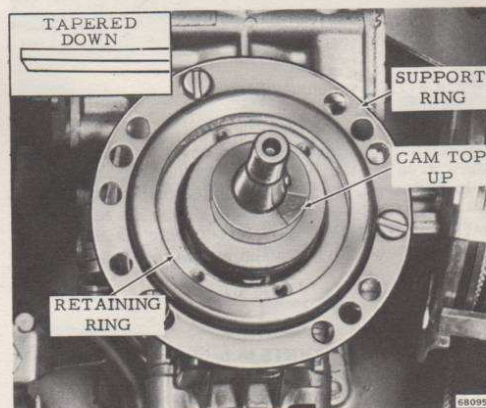

Figure 4-17. Armature Plate
- b. Install cam, making certain that side marked "TOP" is up. See Figure 4-17.
- c. Apply a coat of OMC Sea-Lube* Moly Lube to the armature plate support ring, retaining ring, and bushing in armature plate. Install retaining ring with tapered side down, and support ring. Align retaining ring to correspond to the position of the armature plate. See Figure 4-17. DO NOT add oil or grease to the oiler wick on the magneto.